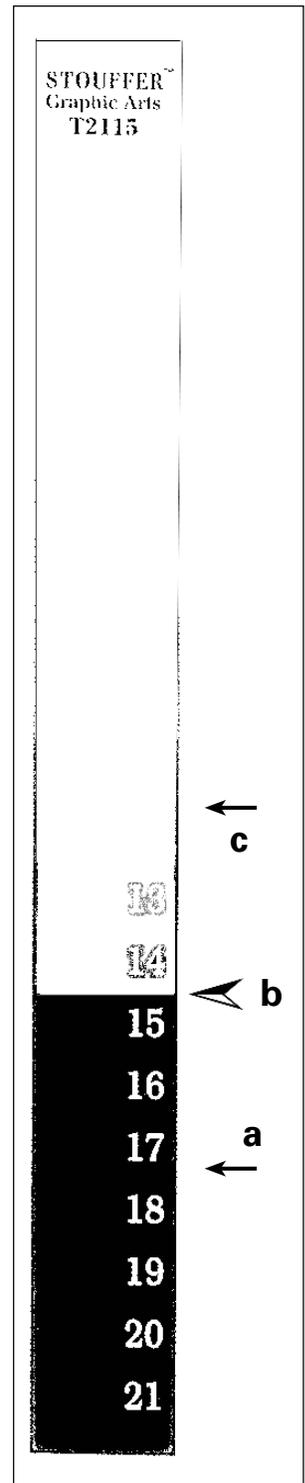

Figure 6. Properly Exposed and Processed Polymer Grey Scale Test Cliché
19. With the proper exposure time, the red emulsion on the grey scale test cliché will etch away up to 14-1/2 (see "b" in figure 6). If the break between etched "a" and unetched "c" areas is LOWER than 14 on the cliché, you will need to INCREASE exposure time and make another test cliché.